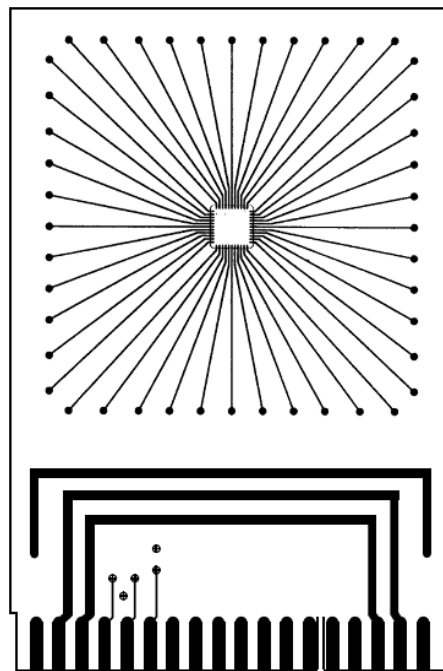

Figure 1. Top View – Typical Test Board
- Figures 1 & 2 below show a typical test board from Top and Side Views.